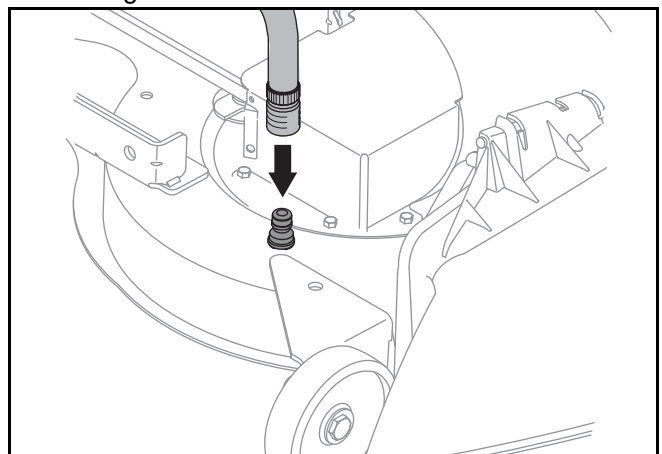

Figure 16
4. Attach the hose coupler to the water port on your decks surface. See Figure 16 .